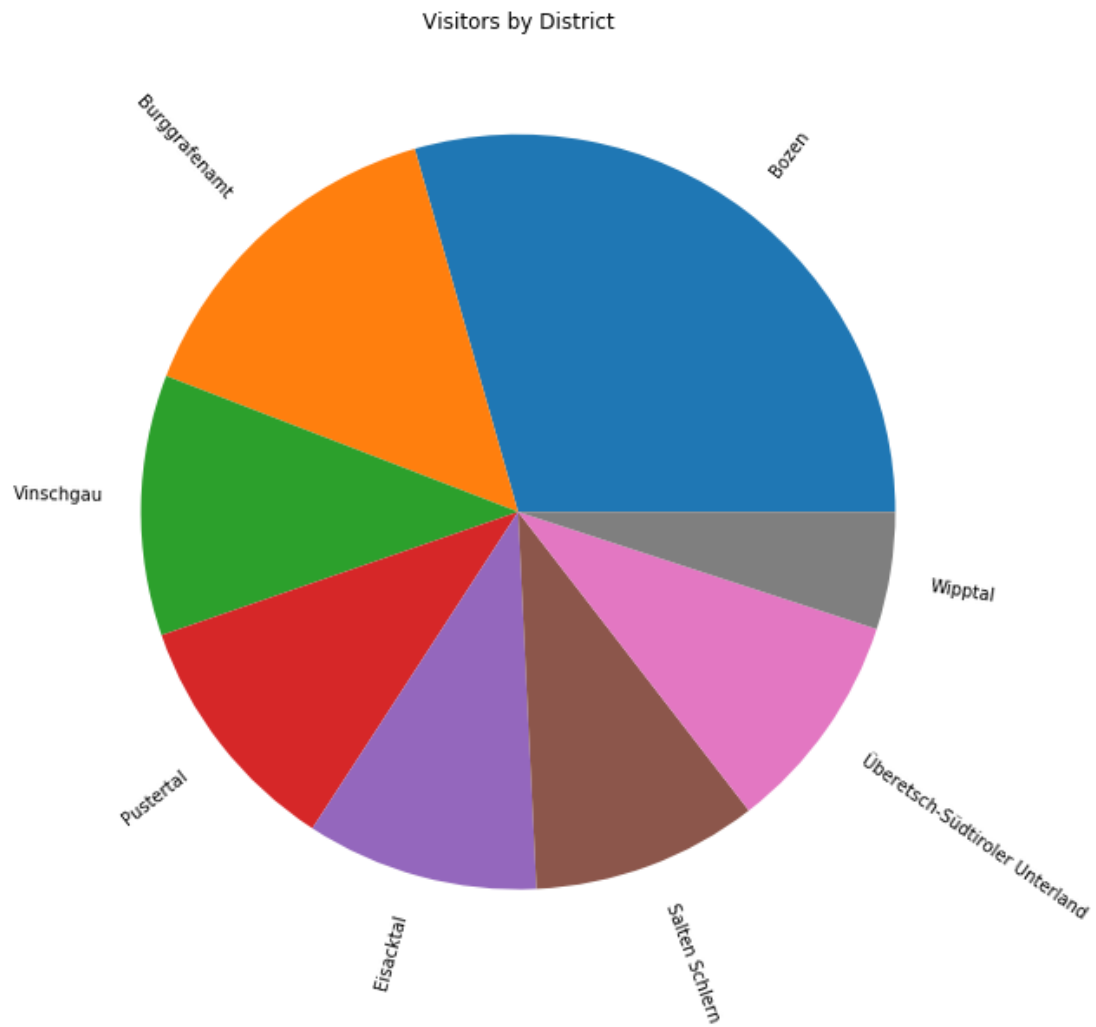

Figure 8: Visitor District
- Where are the customers from? Fig. 8 and fig. 9
Figure 8 shows the number of visitors by their municipality. Again, Bozen is with more than 25% the biggest chunk.